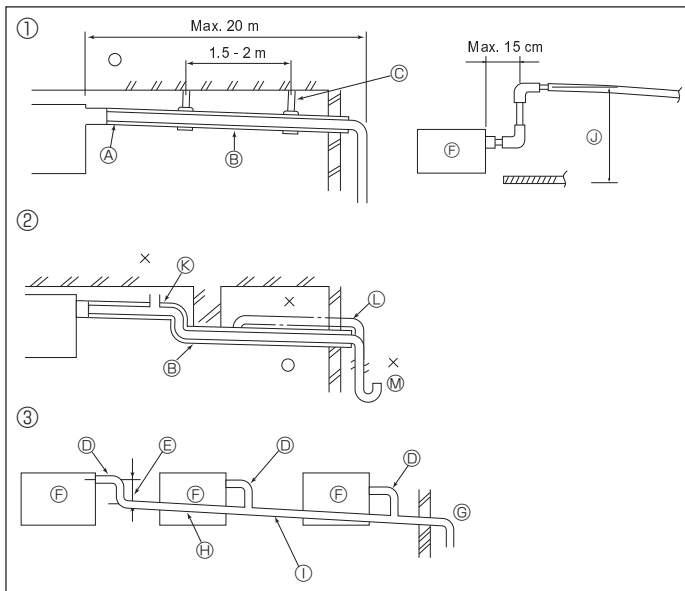

Fig. 3-4
3.5. Drainage piping work (Fig. 3-4)